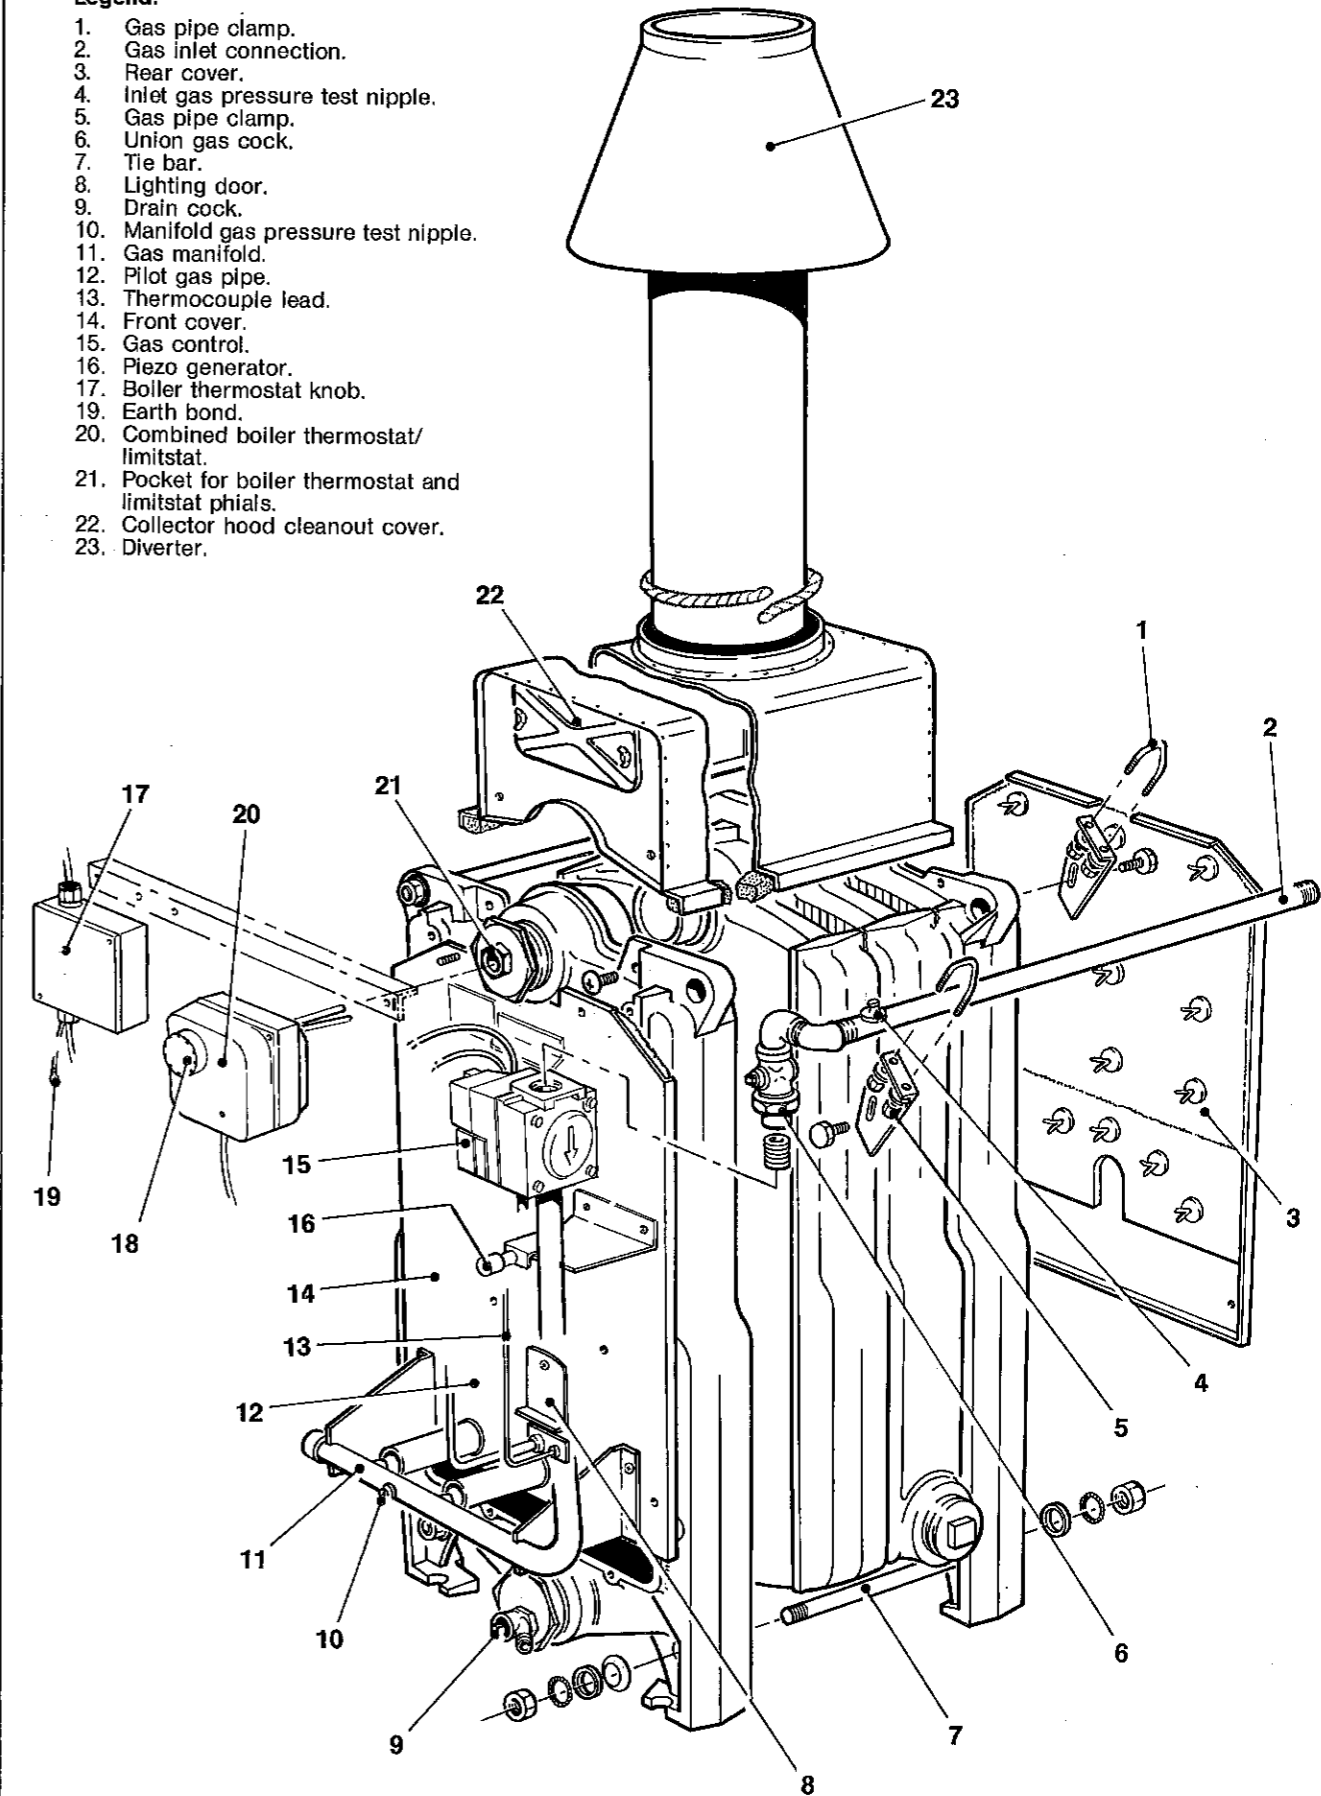

Fig. 3
Close the gas supply cock at the meter. Remove the screw in the gas inlet pressure test nipple (4) (Fig.3) and connect a gas pressure gauge to the test nipple. Take particular care to ensure a gas-tight connection. Open the gas supply cock at the meter and record the static pressure. Next close the gas supply cock at the meter and observe the pressure gauge over a period of one minute. Any pressure drop recorded over this period must not exceed 0.5 mbar (0.2in. w.g.).